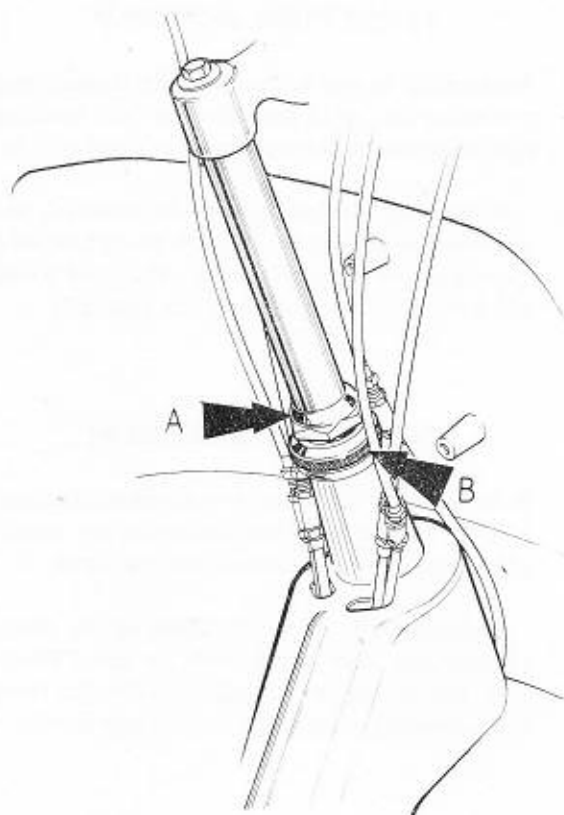

FIG. E3. *Adjusting steering head.*
If any free play is felt the head race bearings are in need of adjustment. To do this slacken off the locknut (A) in Fig. E3, now tighten the bearing nut (B) until any free play has been taken up. Avoid over-tightening the adjuster because the ball bearings will become indented into the races, making the steering difficult and dangerous.